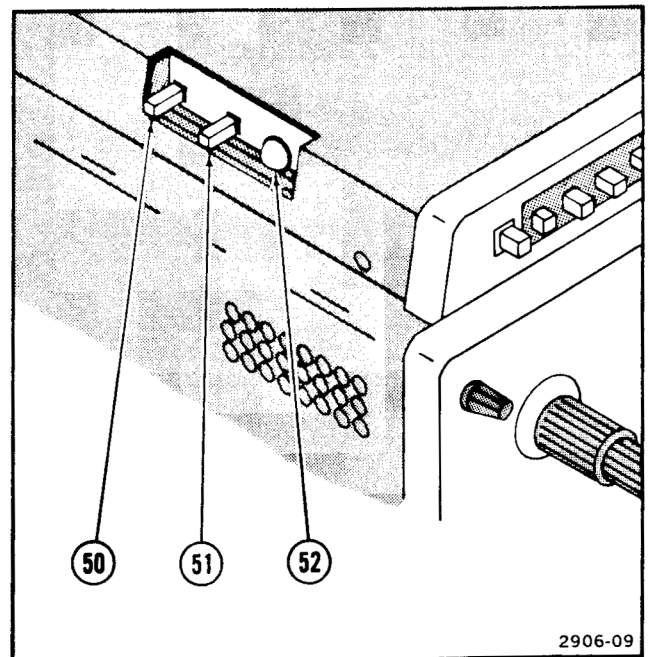

Figure 2-9. Digital storage left side panel controls and indicator.
- ④⑨ **PUSH: CURSOR SELECT**—A momentary contact switch (concentric within the CURSOR/NO. OF SWEEPS control knob) used to alternately select the cursor that will be positioned by the CURSOR control knob. In the VOLTS measurement mode, the cursor selected to be positioned (active cursor) will be displayed as a dashed horizontal line.
Refer to Figure 2-9 for location of items 50 through 52.
- ⑤⑩ **NO. OF SWEEPS (AVG Option and ENVELOPE)**—When pressed in, the number of waveforms (sweeps) selected to be either averaged in the AVG Storage mode or accumulated in the ENVELOPE Storage mode is displayed on the seven-segment LED indicators. This number, for the AVG mode, may be changed in a binary sequence of 2, 4, 8, 16, 32, 64, 126, or 256 by rotating the CURSOR/NO. OF SWEEPS control knob to the end-stop positions. For ENVELOPE Storage mode, the number may also be set to acquire either one waveform or an unlimited number of waveforms (LED indication is 9999). If set for an unlimited number of waveforms, the digital storage circuitry will continually acquire data to be accumulated in the display until a new selection is made.